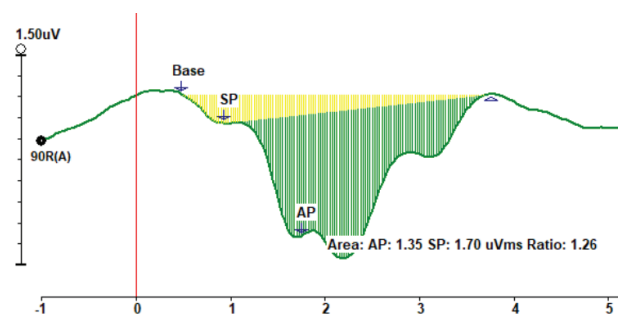

Fig.3 - Sample labeling on ECochG recording
- Examine both ears otoscopically to get a feel for the Tympanic Membrane (TM) and to remove impacted or large pieces of Cerumen.
- Place the contralateral mastoid and forehead electrodes in the following configuration for a waveform with positive peaks, reverse the (+) and (-) for a waveform as shown in Fig.3:
Label placement buttons can be found on the tool bar, just above the waveform display area; click the button, then click the desired location on the selected waveform; drag the markers into place as needed. The right click menu can also be used to place labels at the click location. Fig.3 shows suggested label placement for an acquired response.